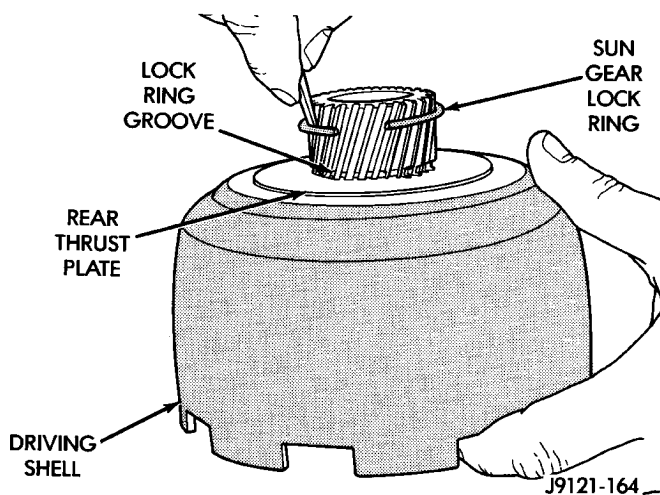

Fig. 176 Installing Sun Gear Lock Ring
(11) Align rear thrust plate on driving shell and install sun gear lock ring. Be sure ring is fully seated in sun gear ring groove (Fig. 176).